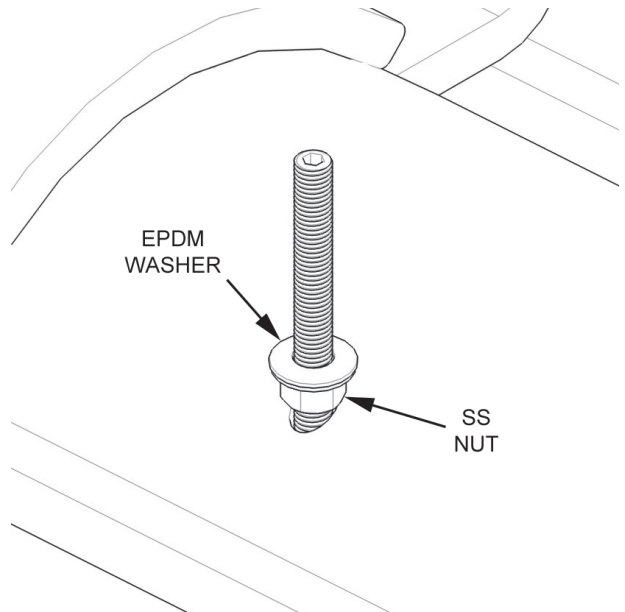

Figure 12.
16. Thread a 3/8"-16 SS hex nut down the 3/8" SS all-thread to just above the top surface of the tile. Do not tighten the nut against the tile. See Figure 12.
17. Push one of the EPDM bonded washers down the 3/8" all-thread until it rests against the top of the nut. Be sure that the EPDM side is facing up. See Figure 12.